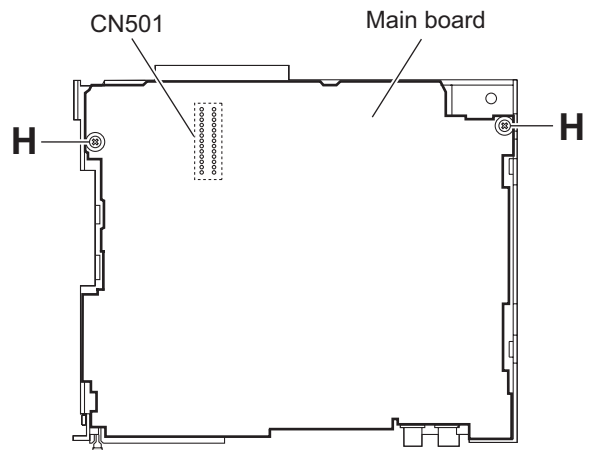

Fig.7
- (2) Remove the two screws **H** attaching the main board. (See fig.7.)
- (3) Disconnect the connector CN501 and remove the main board. (See fig.7.)